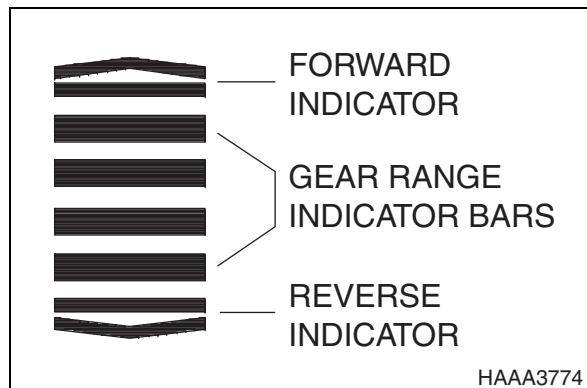

Figure 23
- A. Indicates travel direction and gear selection. See Figure 23 for more detailed information.